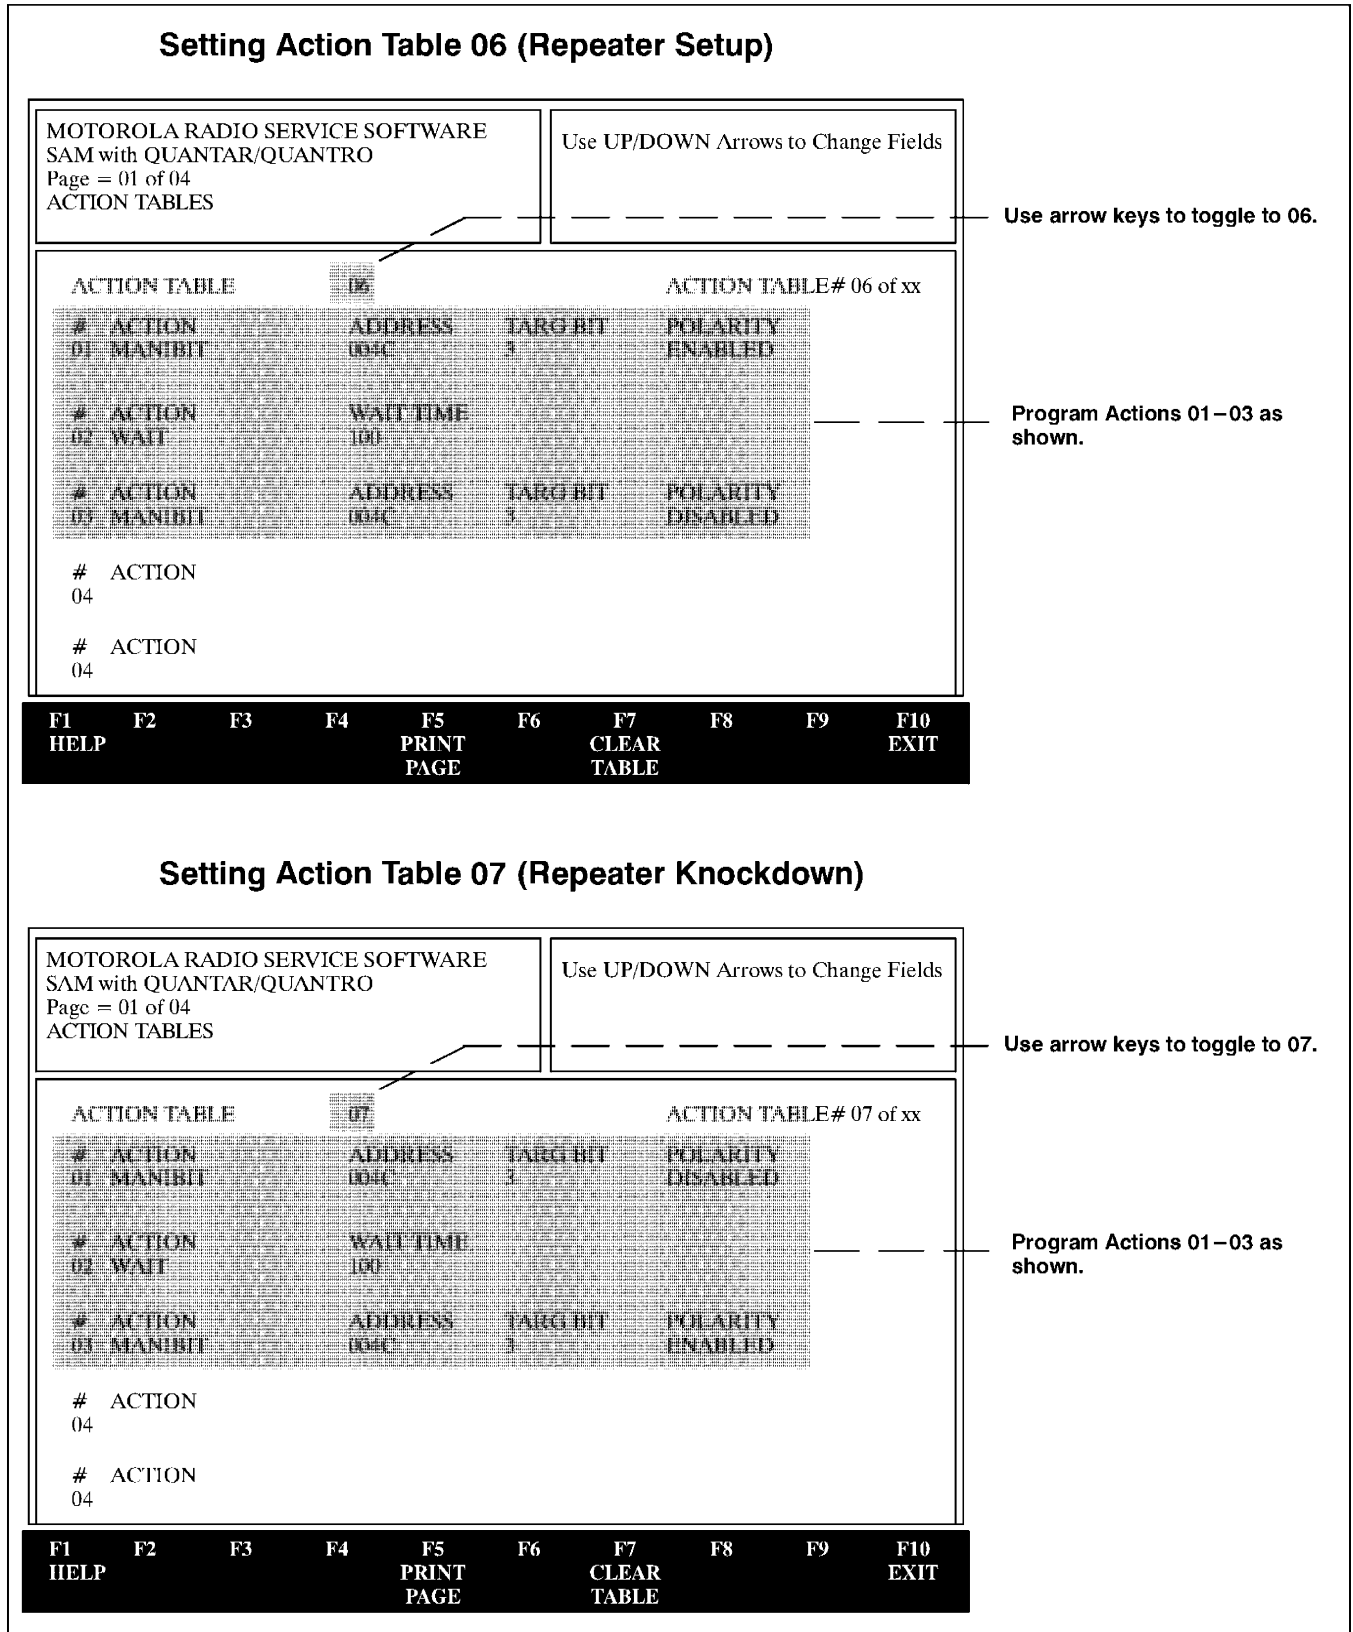

**Figure 3.** Programming the Action Tables for Gated Access Enable/Disable
**Step 3.** Access the *SAM Action Tables* screen and program Tables 03 and 04 as shown in Figure 3. These Action Tables control the Gated Access functions (enabled and disabled). Note that if there is default data already entered when opening the tables, overwrite the data with the data shown on the facing page.